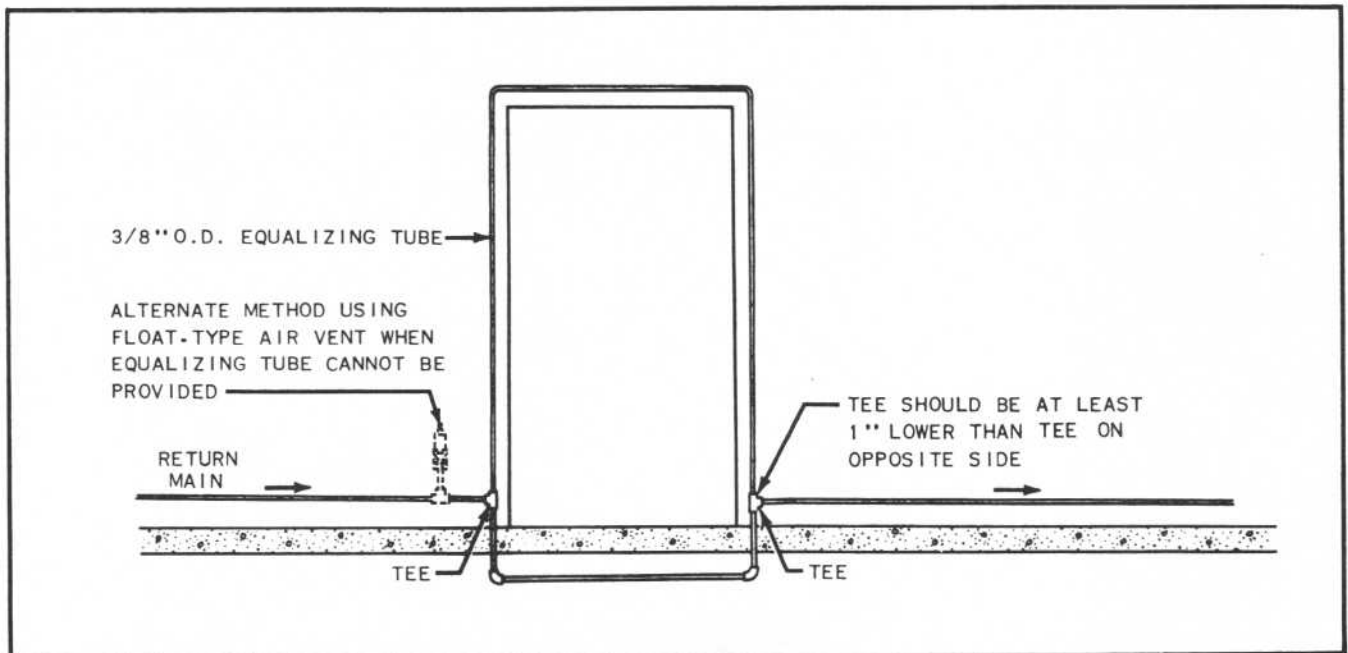

Figure 27 - Return Main Piping Under Doorway or Beam
- f. SPECIAL ARRANGEMENTS FOR RETURN MAINS - If the condensate return main is trapped when passing underneath a door, beam or other obstacle, it may be piped as shown in Figure 27 below. It is most important that the air in the main on the upstream side of the trapped line be allowed to escape without creating any appreciable back pressure. Large float type air vents such as the Hoffman #75A are most satisfactory for this purpose. On longer return mains these vents should also be used at intervals of about 100 feet.
The substitution of tubing for an air vent as shown in Figure 27 is satisfactory for small return mains (3/4" or 1/2"). If this method is used on larger return mains, the loop should be at least 1/2 the size of the horizontal main.